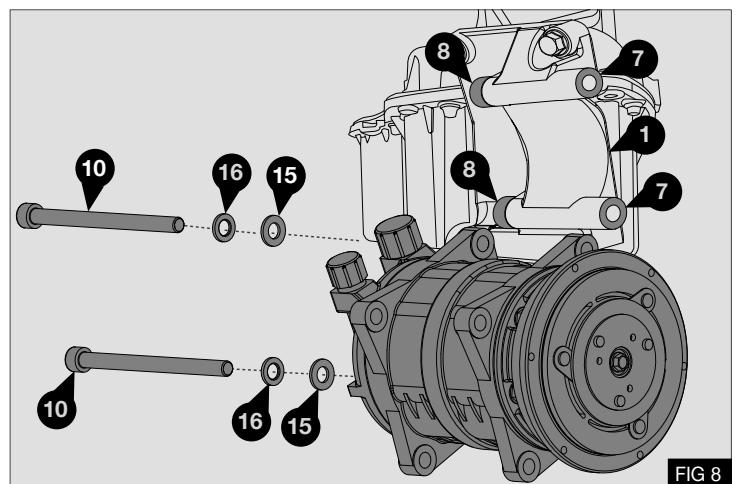

FIG 8
1. Mount a compatible compressor specified on page 6 to the mount bracket (1), using 2 x 8.5 MM Spacers (8) between the rear ears of the compressor and the back mounting face of the mount bracket (1), 2 x 1.6 MM Spacers (7) between the front ears of the compressor and the front mounting face of the mounting bracket (1), 2 x M10 x 130 bolts (10), 2 x flat washers (15) and 2 x Schnorr safety washers (16) - Fig 8